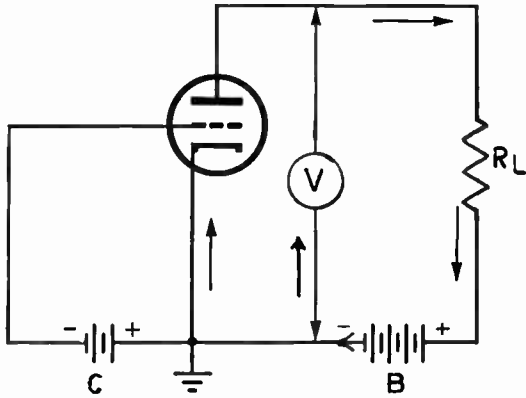

FIG. 8-19. READING PLATE VOLTAGE WITH A D'ARSONVAL METER.
**THE VACUUM TUBE VOLTMETER.** The chief disadvantage of a D'Arsonval type voltmeter is that it draws current from the device under measurement and thereby gives an inaccurate reading. Fig. 8-19 illustrates this. An ordinary voltmeter is placed across the plate and cathode in order to measure the plate voltage. However, the voltmeter draws current from the circuit and this increases the current through  $R_L$ . The voltage across  $R_L$  increases and the voltage between the plate and cathode decreases. Thus, the meter reads a lower voltage than the one that existed before the meter was connected.